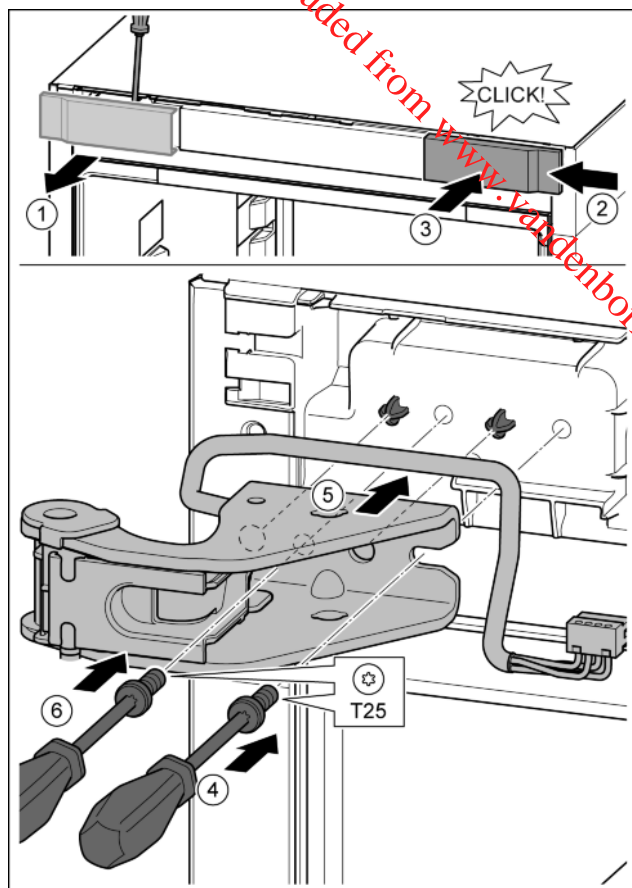

Fig. 26
- Undo the cover with a screwdriver and remove sideways. Fig. 26 (1)
- Rotate the cover 180° and clip onto the other side from the right. Fig. 26 (2)
- Click the cover into place. Fig. 26 (3)
- Position the screw with a T25 screwdriver. Fig. 26 (4)
- Position the upper bearing bracket. Fig. 26 (5)
- Tighten the screw. Fig. 26 (4)
- Insert the screw with a T25 screwdriver and tighten. Fig. 26 (6)